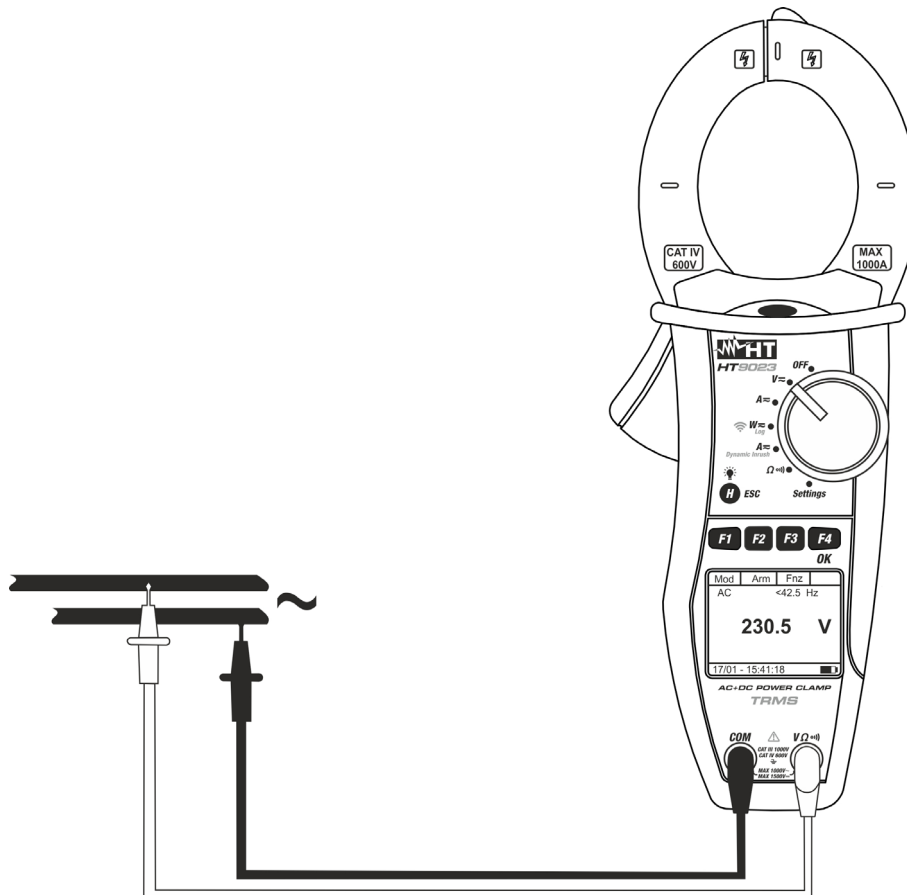

Fig. 6: AC and AC + DC voltage measurement
4. Connect red cable to input lead **VΩ $\frac{1}{2}$** and black cable to input lead **COM** then position the leads to the desired points of the circuit under test (see Fig. 6)